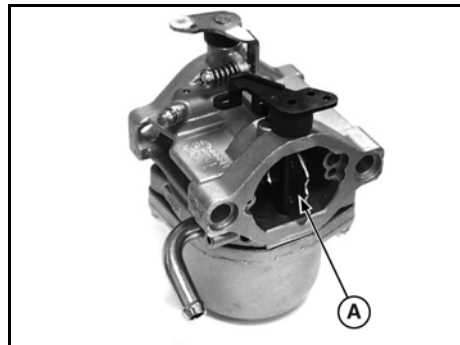

Figure 65
6. Insert the choke plate into the choke shaft with the dimples toward the fuel inlet side of the carburetor. Dimples center the choke plate on the shaft (A, Figure 65).